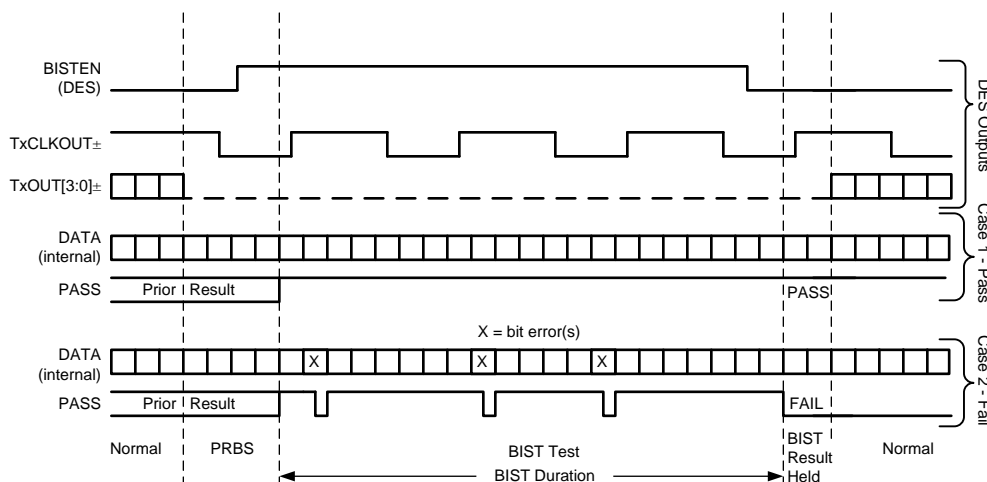

Figure 15. BIST Waveforms, in Conjunction With Deserializer Signals
**Step 4:** The link returns to normal operation after the deserializer BISTEN pin is low. Figure 15 shows the waveform diagram of a typical BIST test for two cases. Case 1 is error-free, and Case 2 shows one with multiple errors. In most cases, it is difficult to generate errors due to the robustness of the link (differential data transmission and so forth), thus they may be introduced by greatly extending the cable length, faulting the interconnect medium, or reducing signal condition enhancements (Rx Equalization).